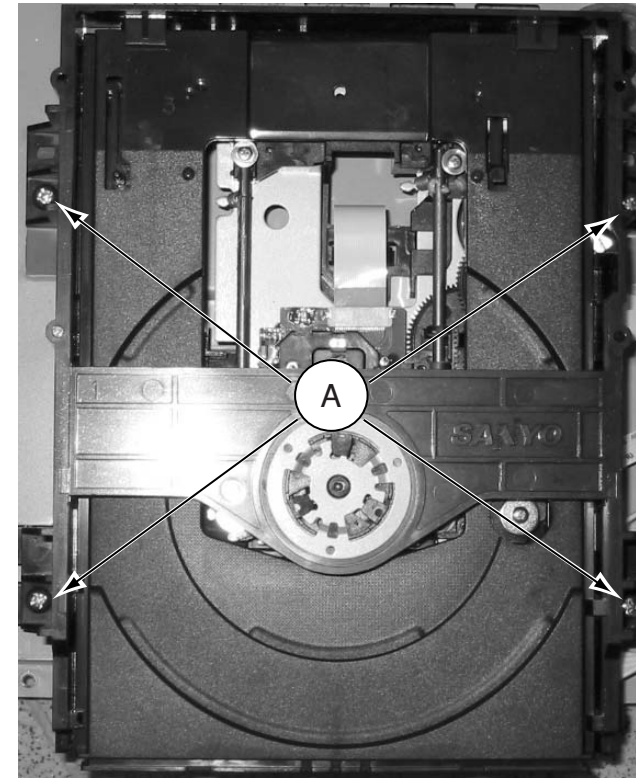

Figure 4
1) Loosen 4 screws "A" to remove the DVD Module as shown in figure 4.